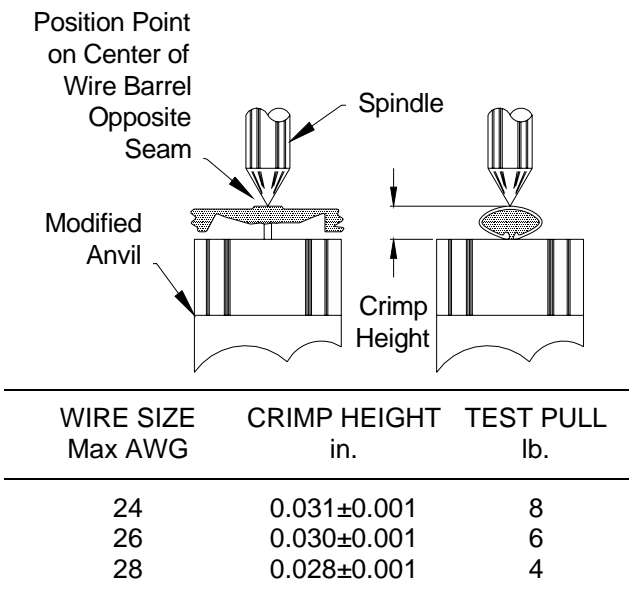

Figure 3
1. Refer to Figure 3 and select the *maximum* size wire for the crimping chamber.
3. Using a crimp height comparator, measure the wire barrel crimp height as shown in Figure 3. If the crimp height conforms to that shown, the tool is considered dimensionally correct. If not, the tool must be adjusted. Refer to Section 5, CRIMP HEIGHT ADJUSTMENT.